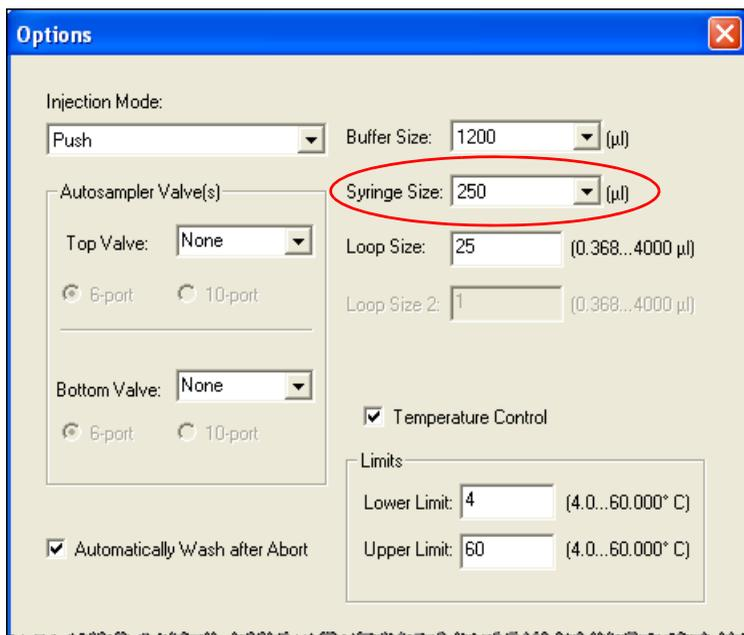

Figure 5-17. Example Chromeleon Configuration Options Page
9. If the new syringe is a different size than the previous syringe, select the new size on the **Options** page in the Chromeleon configuration (see the example in Figure 5-17). Click **OK** and then click **Yes** to confirm sending